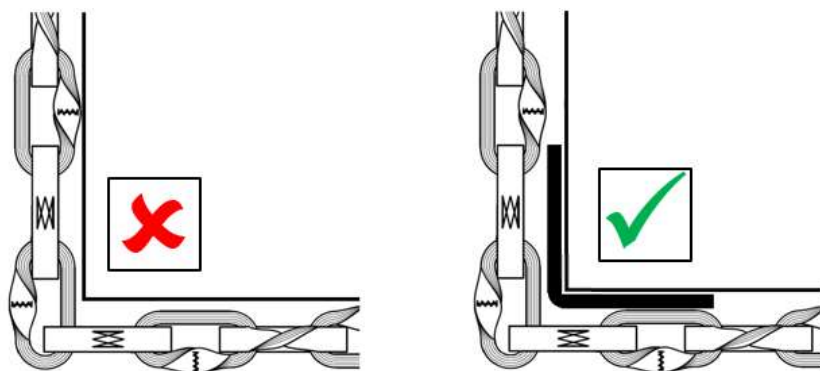

Figure 4. Use of sharp corners.
- Never support chains directly on sharp edges (Figure 4). Corner protections or protection brackets must be used in loads with sharp edges. Protections must be used to prevent sharp edges and corners damaging the chain. Industrias Murtra Cadenas S.L. recommends the use of UHMWPE tubular type protections. Unprotected contact between the chain and edges of radii smaller than the width of the webbing forming the link must generally be avoided.